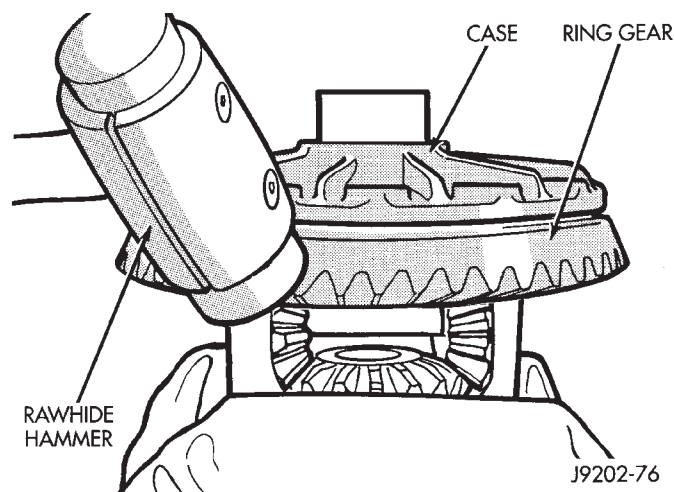

Fig. 22 Ring Gear Removal
- (1) Remove differential from axle housing.
- (2) Place differential case in a suitable vise with soft metal jaw protectors. (Fig. 22).
- (3) Remove bolts holding ring gear to differential case.
- (4) Using a soft hammer, drive ring gear from differential case (Fig. 22).